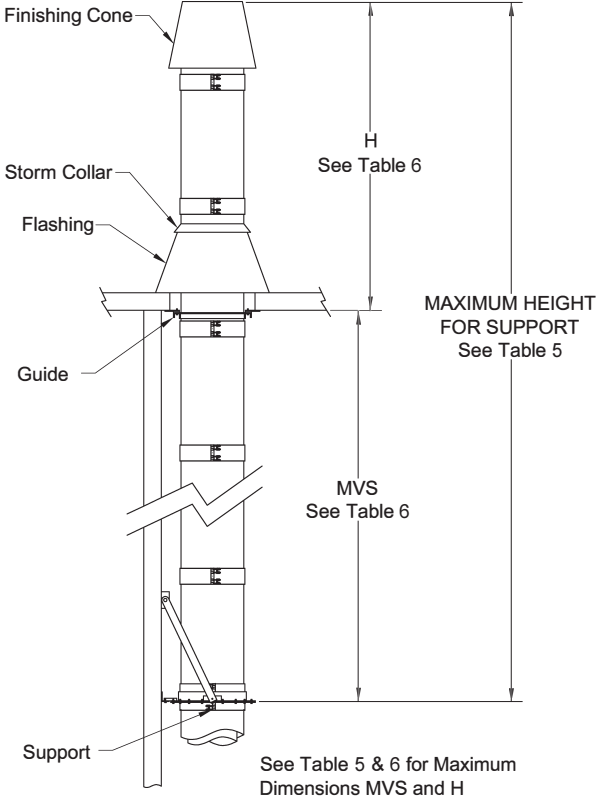

Figure 4 - Maximum freestanding height
- 2. If the chimney above the roof does not exceed dimension H, no special guying or bracing is required. However, to protect the flashing from lateral movement, a guide must be installed at the roof level. **See Figure 4.**